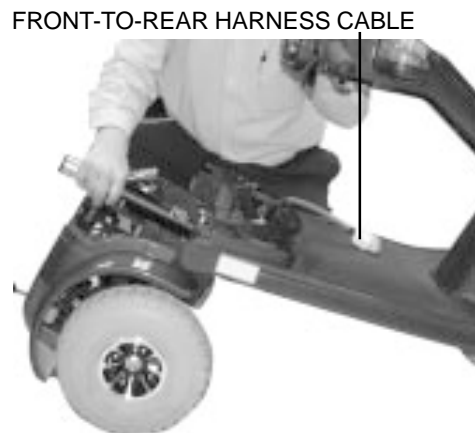

Figure 20. Frame Lockup
**WARNING! Position the front-to-rear harness cable so it won't become pinched between the frame halves when pivoting the rear section forward. See figure 20.**